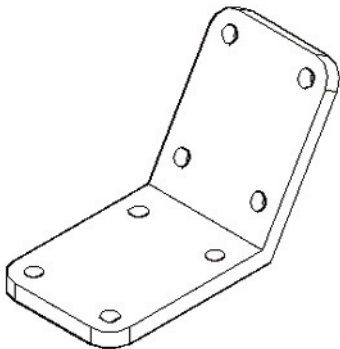

Fig. 17.6 First example – changing UCS planes
First example – changing UCS planes (Fig. 17.6)
11. Place the 3D model in the **3D Navigate/Southwest Isometric** view and set in the **Visual Styles/Hidden** format (Fig. 17.6).